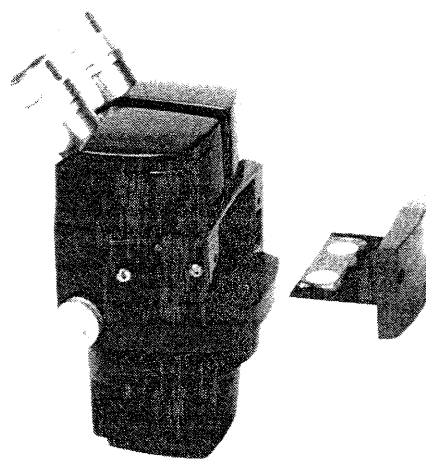

Figure 8.
- 1.) Carefully remove the illuminator port cover plate as in Figure 8.